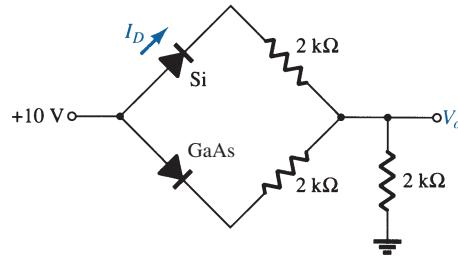

FIG. 163
*13. Determine V_o and I_D for the network of Fig. 163.